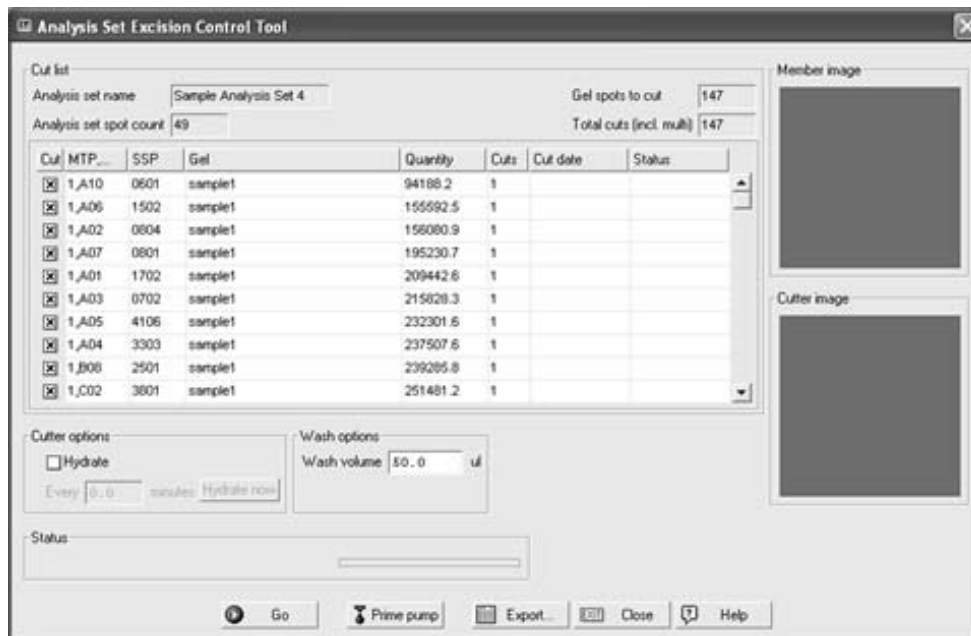

Figure 6-9. Analysis Set Excision Control Tool
5. If desired, review the cut request list (see Figure 6-9).